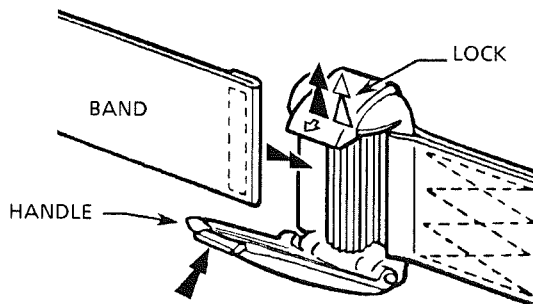

Figure 7.10B - REAR SEAT BELT (with band)
**Rear seat belts** (with band) (see Figure 7.10B)